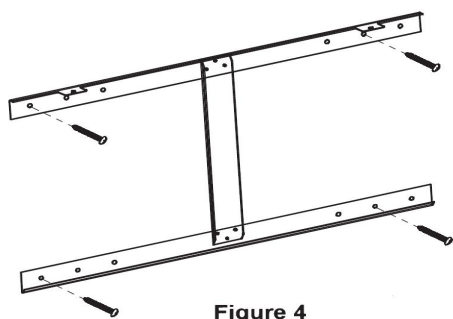

Figure 4
Step 4: Fix the mounting bracket using the four screws and wall plugs(Figure 4).